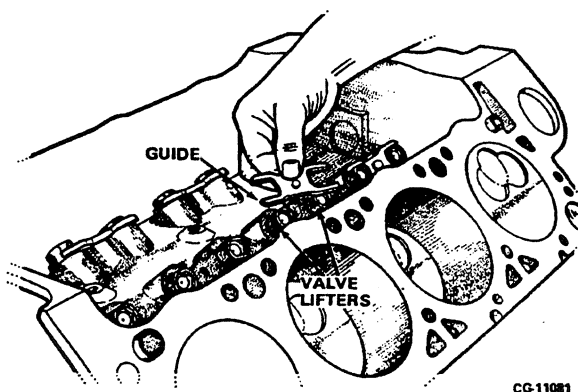

Figure 4.4 Valve Lifter Guide Removal.
2. Remove valve lifter guides (Figure 4.4).